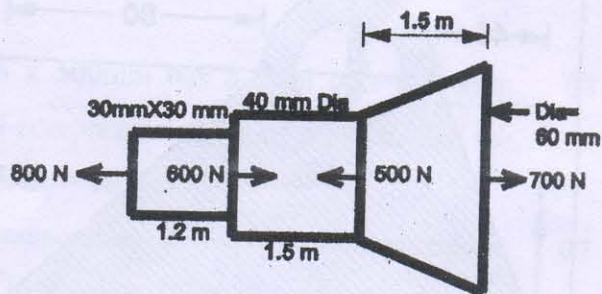

Figure 10
- Q. 5 (a) Find total deformation of the member shown in figure 10. Take $E = 2 \times 10^5 \text{ N/mm}^2$. 07